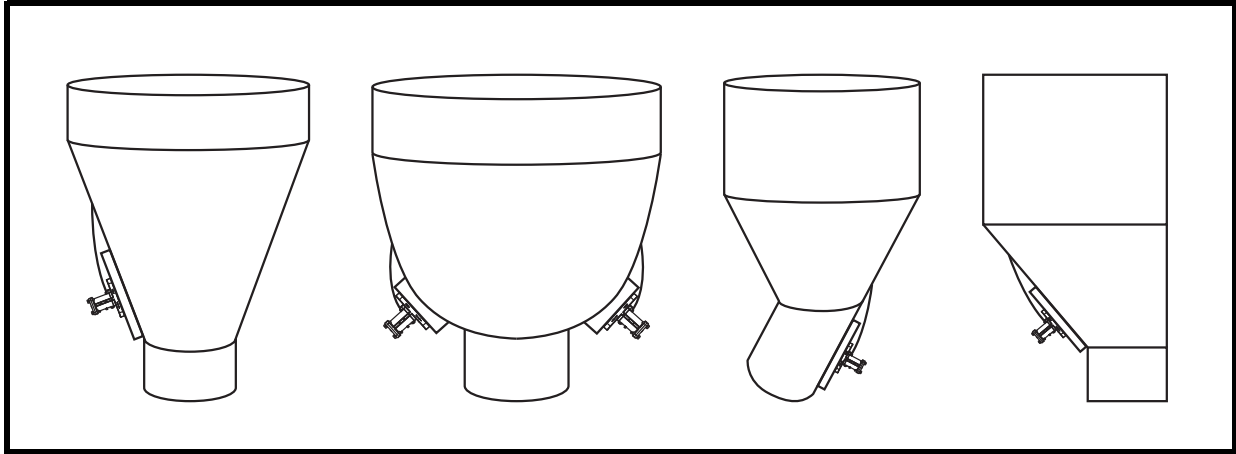

Figure 1. Locating Vibrator on Structure
See Figure 1. Locate vibrator in lower 1/4 of structure slope length. If second vibrator is required, mount 180 degrees from first vibrator and 1/3 up slope.
- b. Locate plate so that vibrator can be positioned as shown in Figure 1.
- a. Locate mount so that vibrator can be positioned as shown in Figure 1.